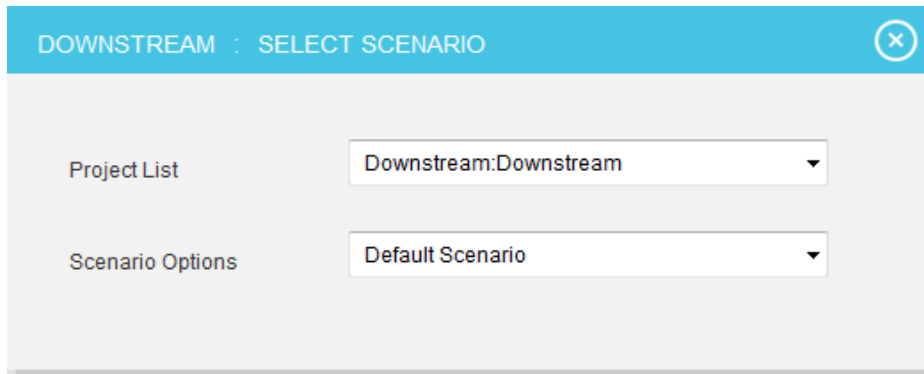

Figure 2.2
2. Select the project from the **Project List** dropdown, and then select the scenario from **Scenario Options** dropdown. (Figure 2.2)